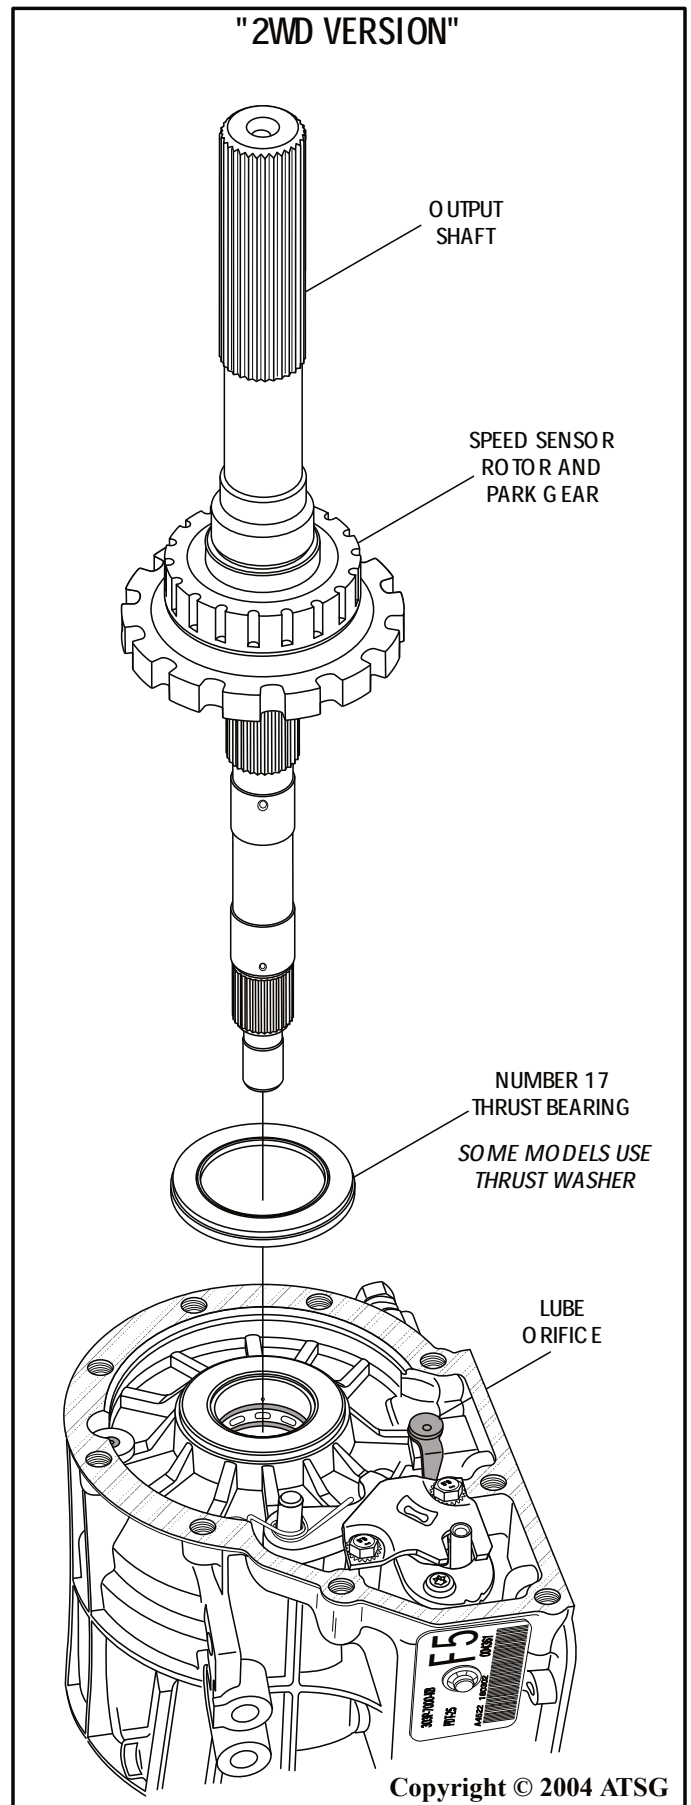

Figure 52
60. The 2WD version is shown in Figure 52, which is basically the same as the 4WD version.